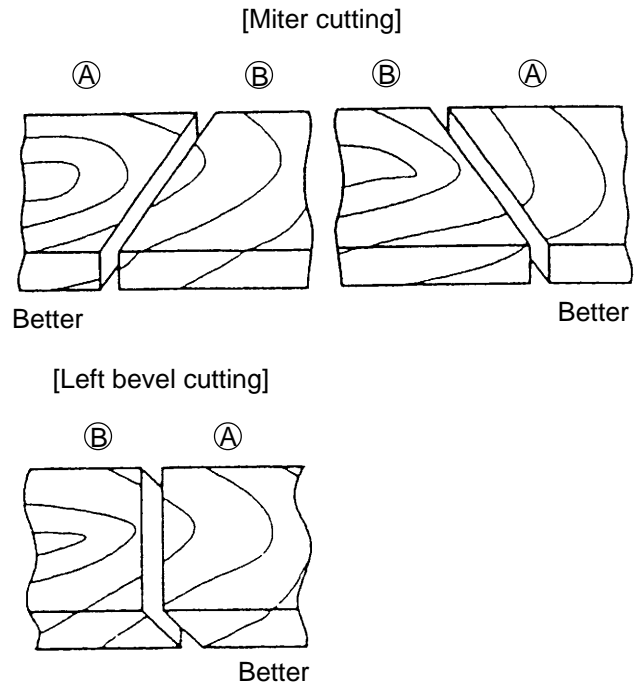

Fig. 9
In the cutting examples illustrated in Fig. 9, the cut surfaces on the sides marked (A) are better than those on the sides marked (B).